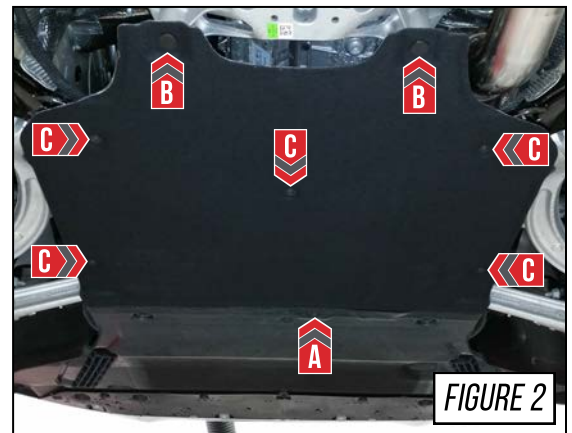

FIGURE 2
The remainder of the removal process takes place under the car. Removing the belly pan is accomplished by removing the fasteners as shown by the arrows in **Figure 2**.
One (1) T25 Torx, at **Arrow A** in **Figure 2**.
Two (2) quick release fasteners, at **Arrows B** in **Figure 2**.
Five (5) quarter-turn fasteners, at **Arrows C** in **Figure 2**.